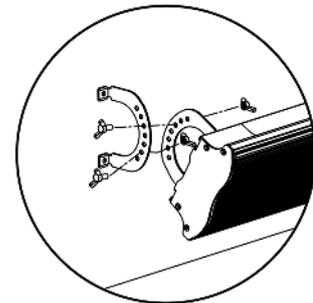

Fig. 3
3. Bring the heater up to the mounting bracket. Insert a bolt (E) into the centre holes of the bracket. Lock into position with wing nuts (E). Use the second bolt and wing nut to secure the heater at the desired angle. Figure 3.